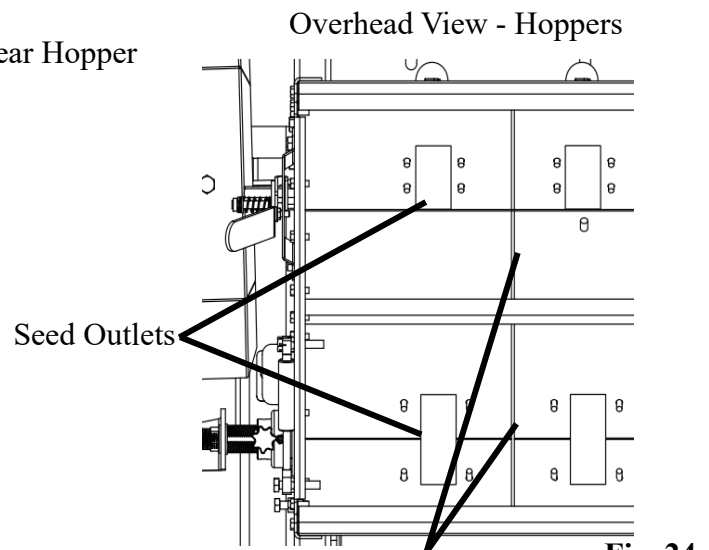

**Fig. 24**
- Locate barriers approximately half way between the first seed outlets and the second set, Fig. 24. Attach Hopper Barriers with masking tape, duct tape or similar adhesive. Use something easily removed later. These are temporary for trial run only.